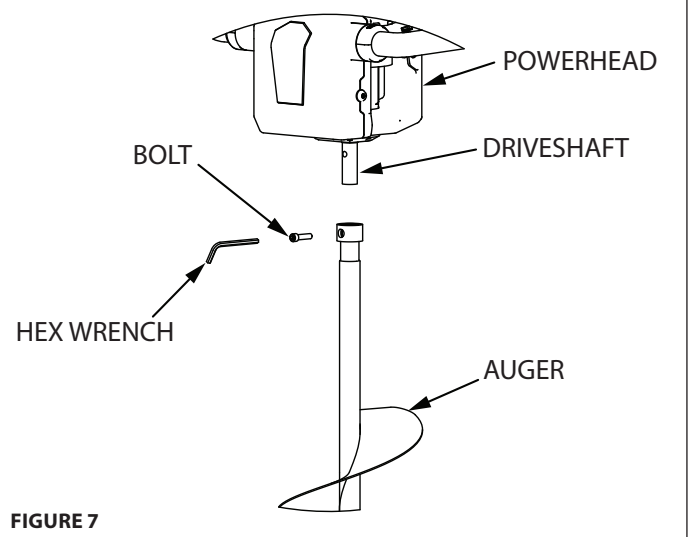

FIGURE 7
2. Remove the auger from the powerhead and apply a thin layer of grease to the driveshaft. **SEE FIGURE 7**